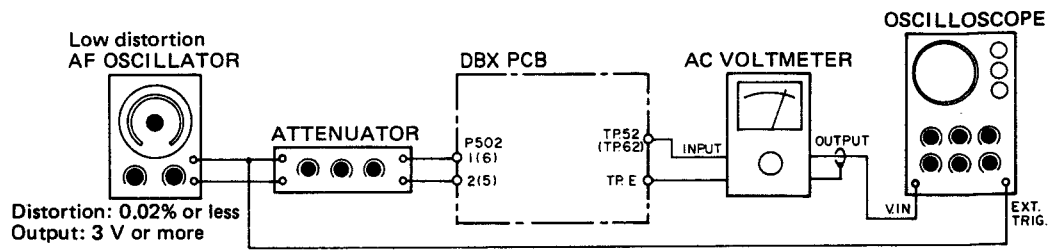

Fig. 5-9
2. Make the Fig. 5-9 connections, then feed 100 Hz, -8 dB (308 mV) to 1(6) terminal (INPUT).